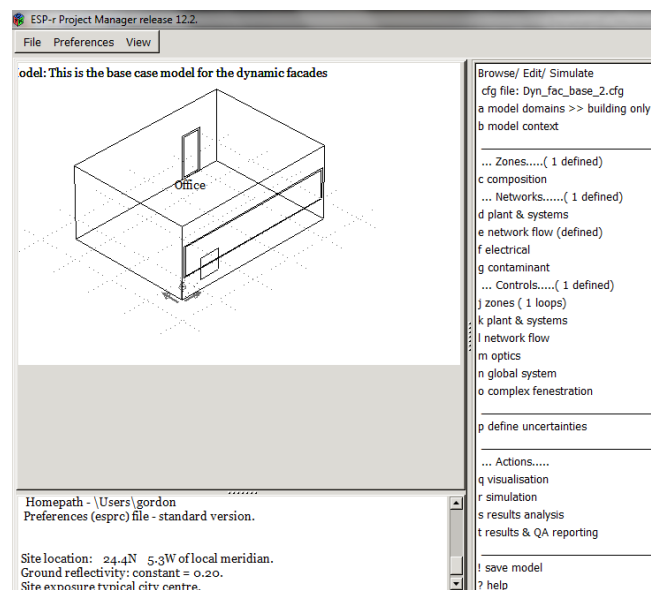

Figure 2
**Step 3:** Once in the browse /edit/simulate menu click >*composition*(figure 2)